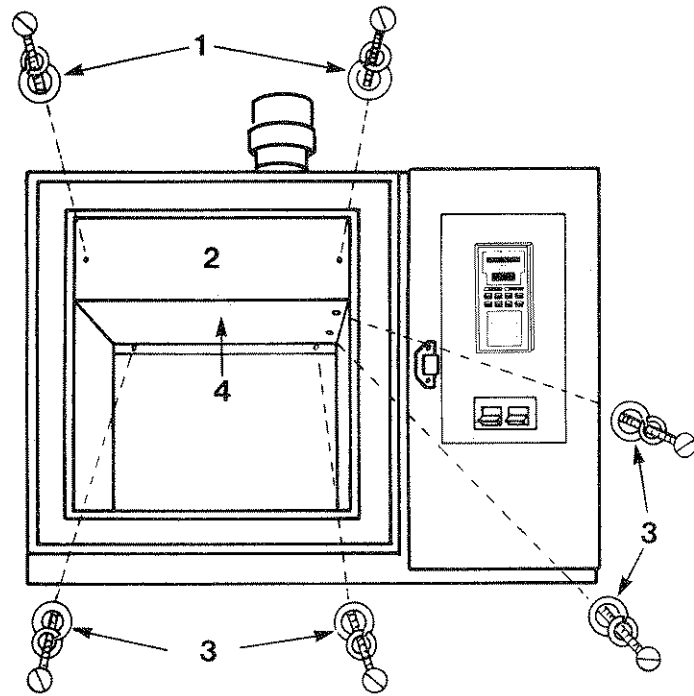
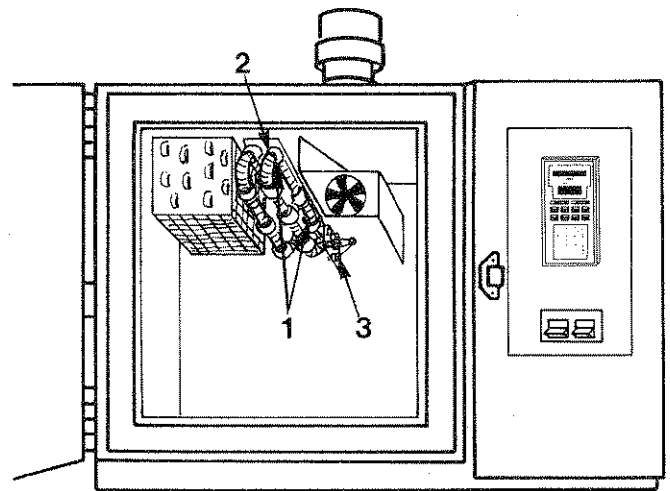

FIGURE D1
FIGURE D2
3. Remove the two screws (1) that hold the front baffle (2) to the chamber. See Figure D1.
5. Remove the four screws (3) that hold the bottom baffle (4) to the chamber.
7. Remove the two screws (1) that hold the heater frame (2) to the chamber. See Figure D2.